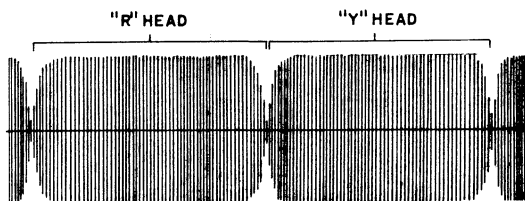
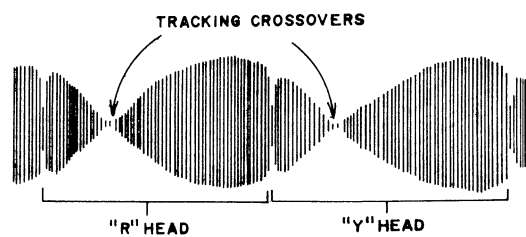
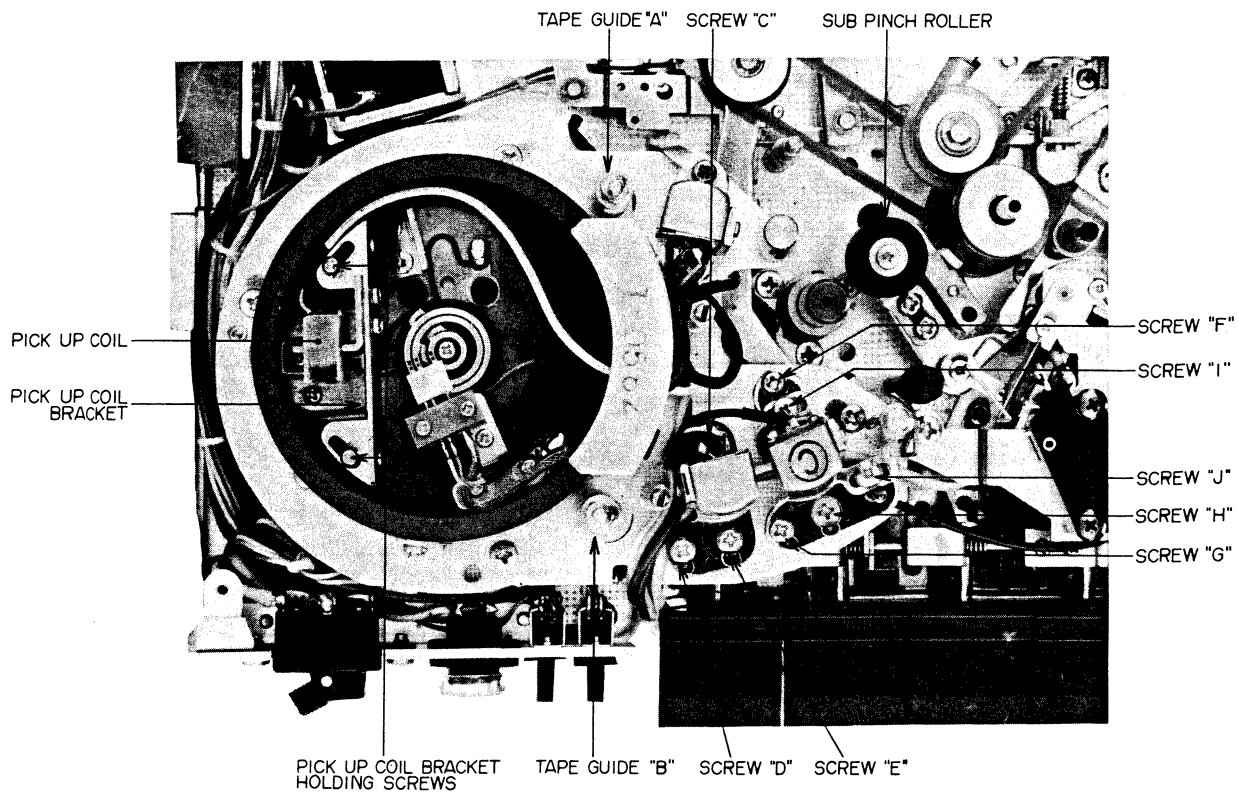

Fig. 1-18
Fig. 1-19
Fig. 1-20
- Connect an oscilloscope to video amp P.C. Board test point TP-5 (Refer to Fig. 2-30) Playback a video reference tape and while observing RF Envelope, adjust the height of tape guides "A" and "B" (Refer to Fig. 1-20) to obtain as square a waveform as possible as shown in Fig. 1-18.
- Loosen screws "I" and "J" (Refer to Fig. 1-20). Move CTL head to left and right and fix at position at which RF Envelope displays maximum amplitude and is square. If even by adjustment of the CTL head, tracking cross-over appears as shown in Fig. 1-19, readjust tape guides "A" and "B".